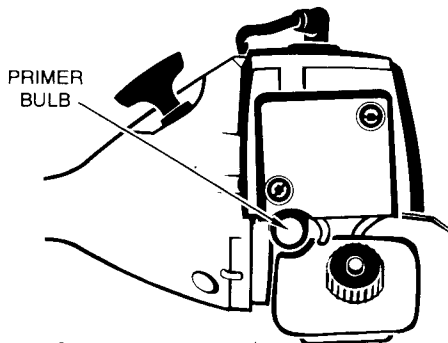

Figure 6-1C
2. Prime the carburetor. Pump the primer bulb 10 times. (Figure 6-1C)